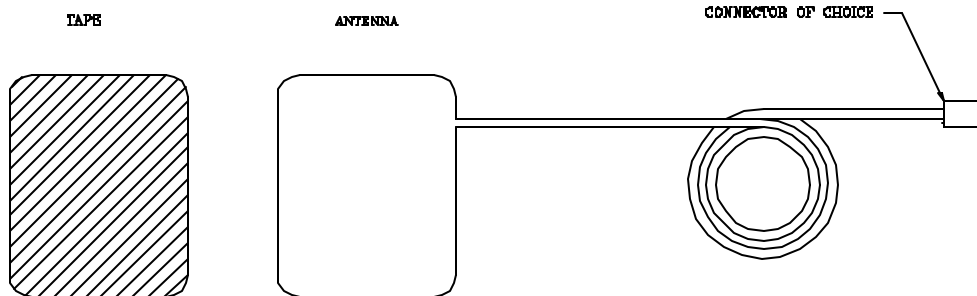

Figure 1 – Part List
1. **Part List:** The system package includes antenna, attached feedline, connector of choice, and Very High Bond tape (VHB) Use only components supplied with the antenna system (See Figure 1).